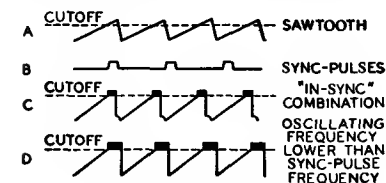

Fig. 102—Sawtooth and sync pulses in synchroguide circuit.
V₁. The waveforms shown in Fig. 102 illustrate the sawtooth and sync pulses (A and B) and their proper "in-sync" combination (C). The sync pulse occurs partly during the portion of the sawtooth voltage in which the triode V₁ draws current. Any shift in sync pulse as it is superimposed on the sawtooth, therefore, will affect the amount of conduction of the control tube. A change in control-tube conduction ultimately affects the bias on the oscillator-tube grid by changing the voltage to which the capacitor C₁ in the cathode circuit may charge. An increase in the positive bias increases the frequency of oscillation.
For example, waveform D in Fig. 102 illustrates a condition in which the sawtooth voltage is advanced in phase with respect to the sync pulses. The widening of the pulse which occurs at the corner of the sawtooth waveform allows the control tube to conduct more current and, consequently, allows the capacitor C₁ to charge to a higher voltage. This increased reference voltage also appears in the grid circuit of V₂ and makes the grid more positive. The increased grid voltage then speeds up the frequency of oscillations until proper synchronization results.